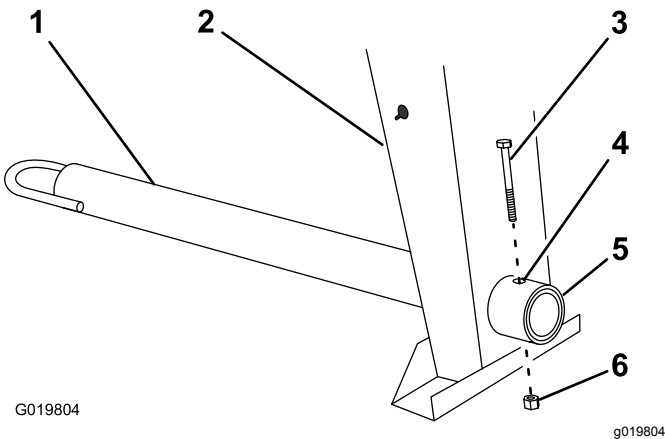

Figure 3
1. Remove the bolt and nut from the tow pole (Figure 3).
2. Slide the tow pole forward and align the hole in the pole with the hole in the frame fitting (Figure 3).
3. Insert the bolt through the holes in the fitting and the pole (Figure 3).
4. Thread the nut onto the bolt and tighten them until they are tight against the frame fitting (Figure 3).